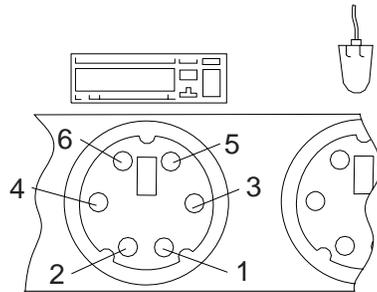

Figure 2-4. Keyboard Connector Voltage Check
- Check the voltage at the keyboard cable connector on the system board, shown in Figure 2-4 on page 2-32, after the POST.